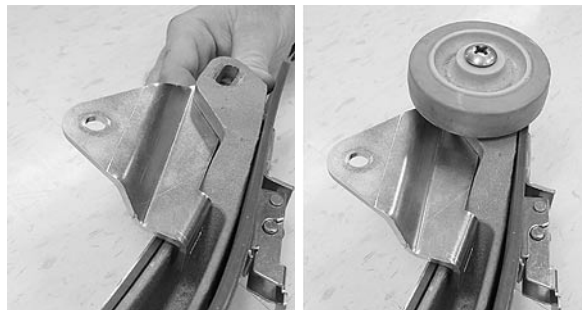

Fig. 11
8. Remove the two bumper wheels from the squeegee assembly and install the caster mounting brackets as shown, philips screwdriver required (Figure 11).